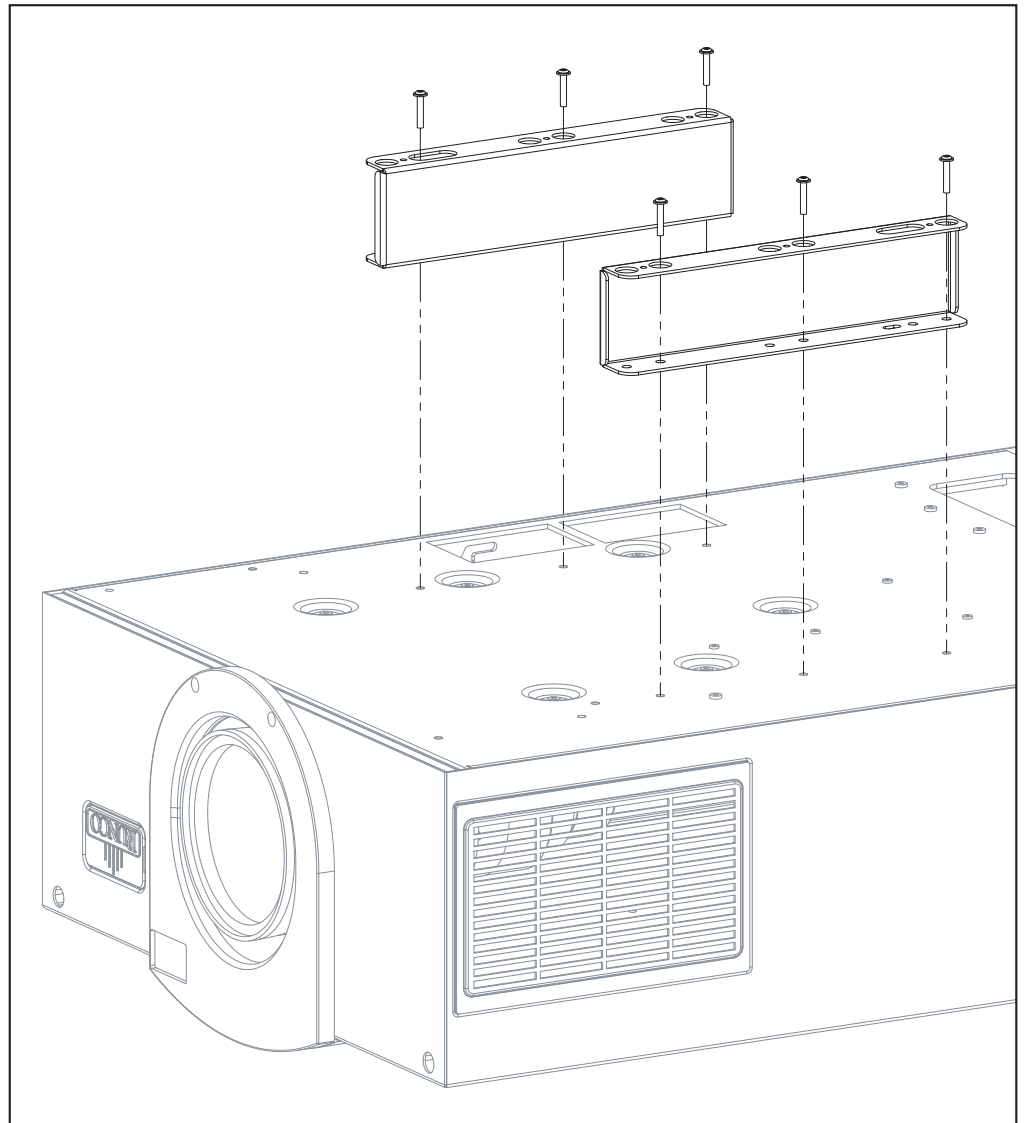

Figure 3-7. VX-22d with Ceiling Mount Adapters/Projector Stands
Using six (6) each of the supplied, M6 x 12mm Pan-Head Phillips screws (item #2), attach the AutoScope Ceiling Mount Adapters/Projector Stands (items #3 and #4) to the projector as shown in Figure 3-7.